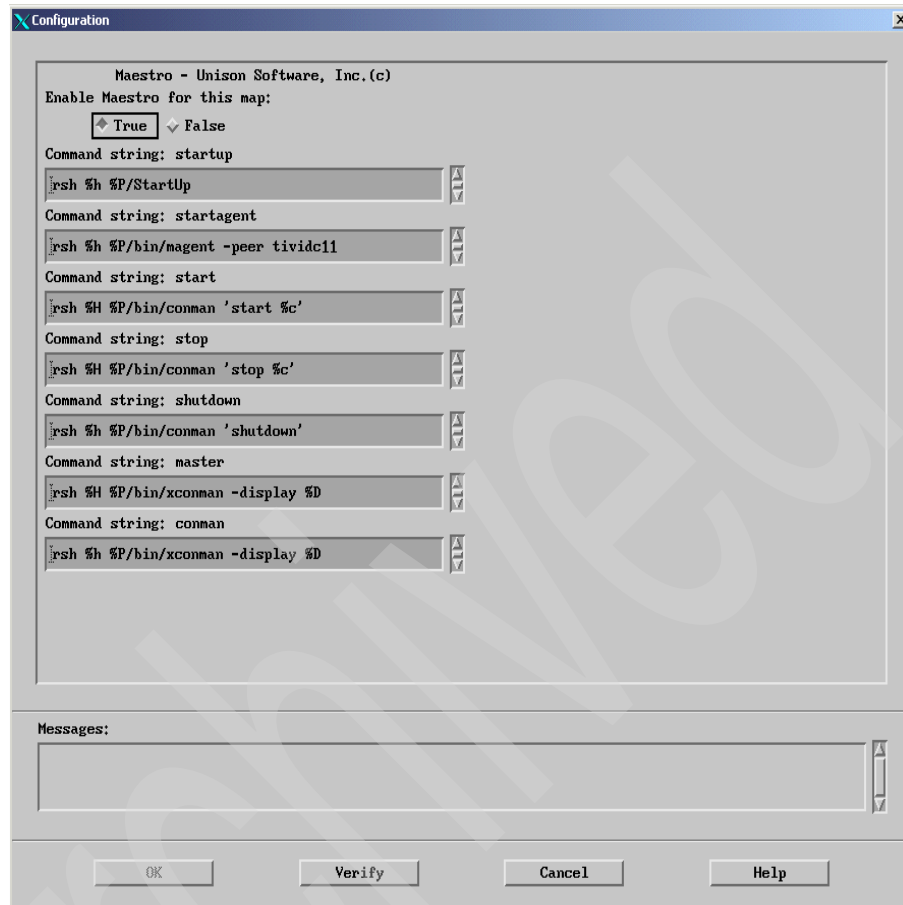

Figure 13-3 Configuring the TWS map
6. When the Configuration dialog opens, set the Enable Maestro for this map option to **True**. Leave all other options, the commands run under the TWS menu items, at their default values (Figure 13-3 on page 627).